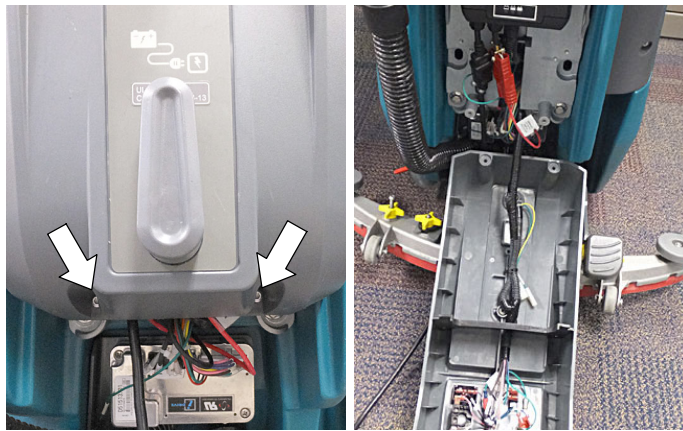

Fig. 7
- Remove the two lower torx screws at bottom of control console and carefully lower console cover (Figure 7)